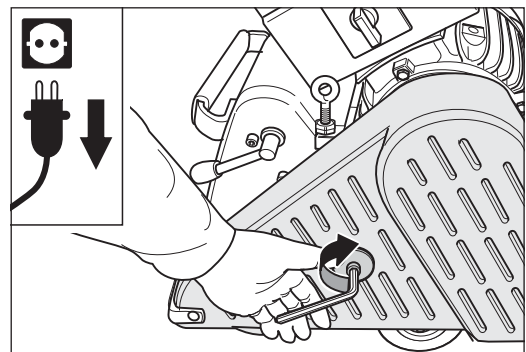

Fig. 100 Close the belt guard.
- 9 Close the belt guard (Fig. 100).